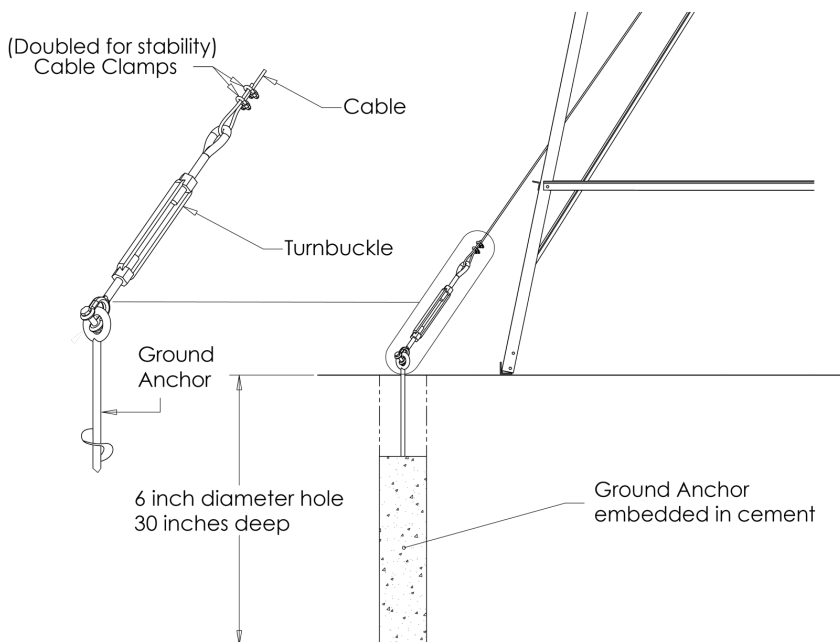

Figure 1
6. Attach the turnbuckle to the eye at the end of each ground anchor. At the opposite end of the turnbuckle, loop the cable through the eye of the turnbuckle, and secure with double cable clamps. **See Figure 1.**